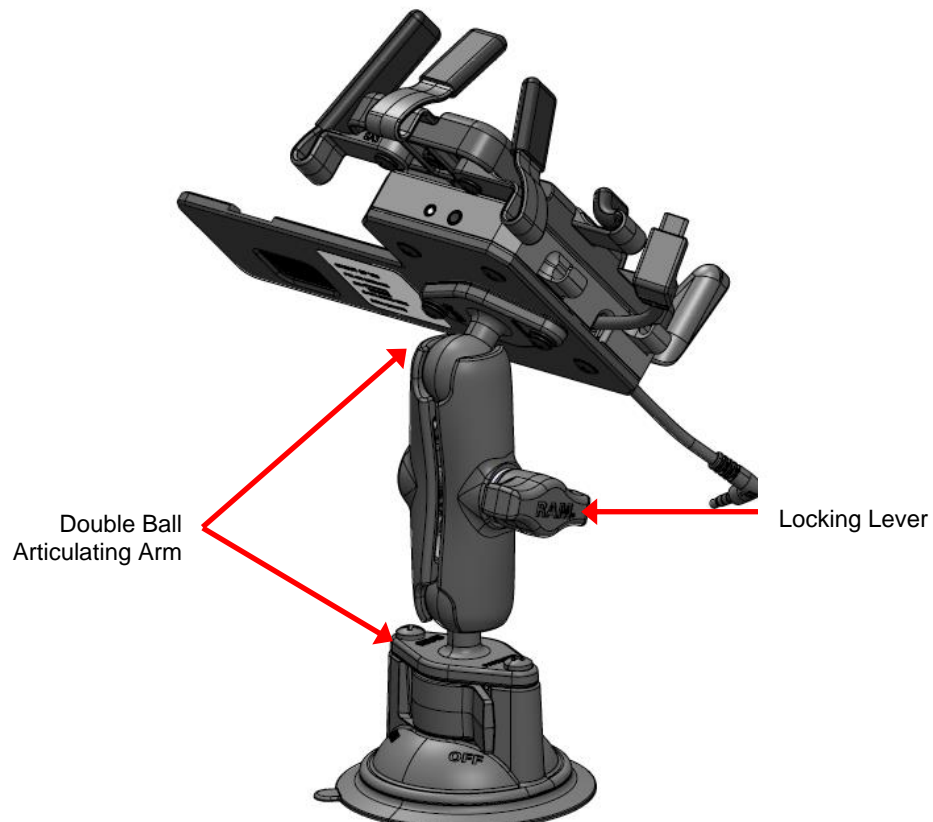

Figure 153: Rubber Ball Socket System
9. Loosen the Plastic Ball Socket System by turning the Locking Lever counter-clockwise on the Mount (see **Figure 153**).
10. Adjust the mounted SHOUT sp device to the desired position via the Plastic Ball Socket System (see **Figure 153**).
11. Once the desired position of the SHOUT sp device is attained, lock-down the Rubber Ball Socket System by turning the Locking Lever clockwise on the Mount (see **Figure 153**).